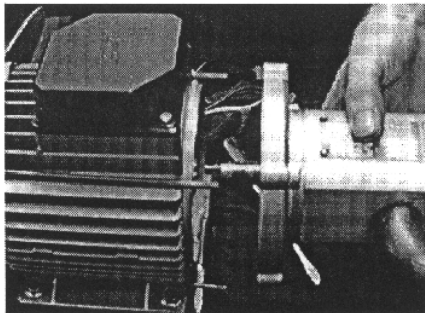

Figure 3
- (b) Draw the pump from the motor (plain keyway shaft). Note: Gentle leverage may be required to ease the male and female spigots on the pump/motor apart but be careful not to damage the faces. (Fig 3)